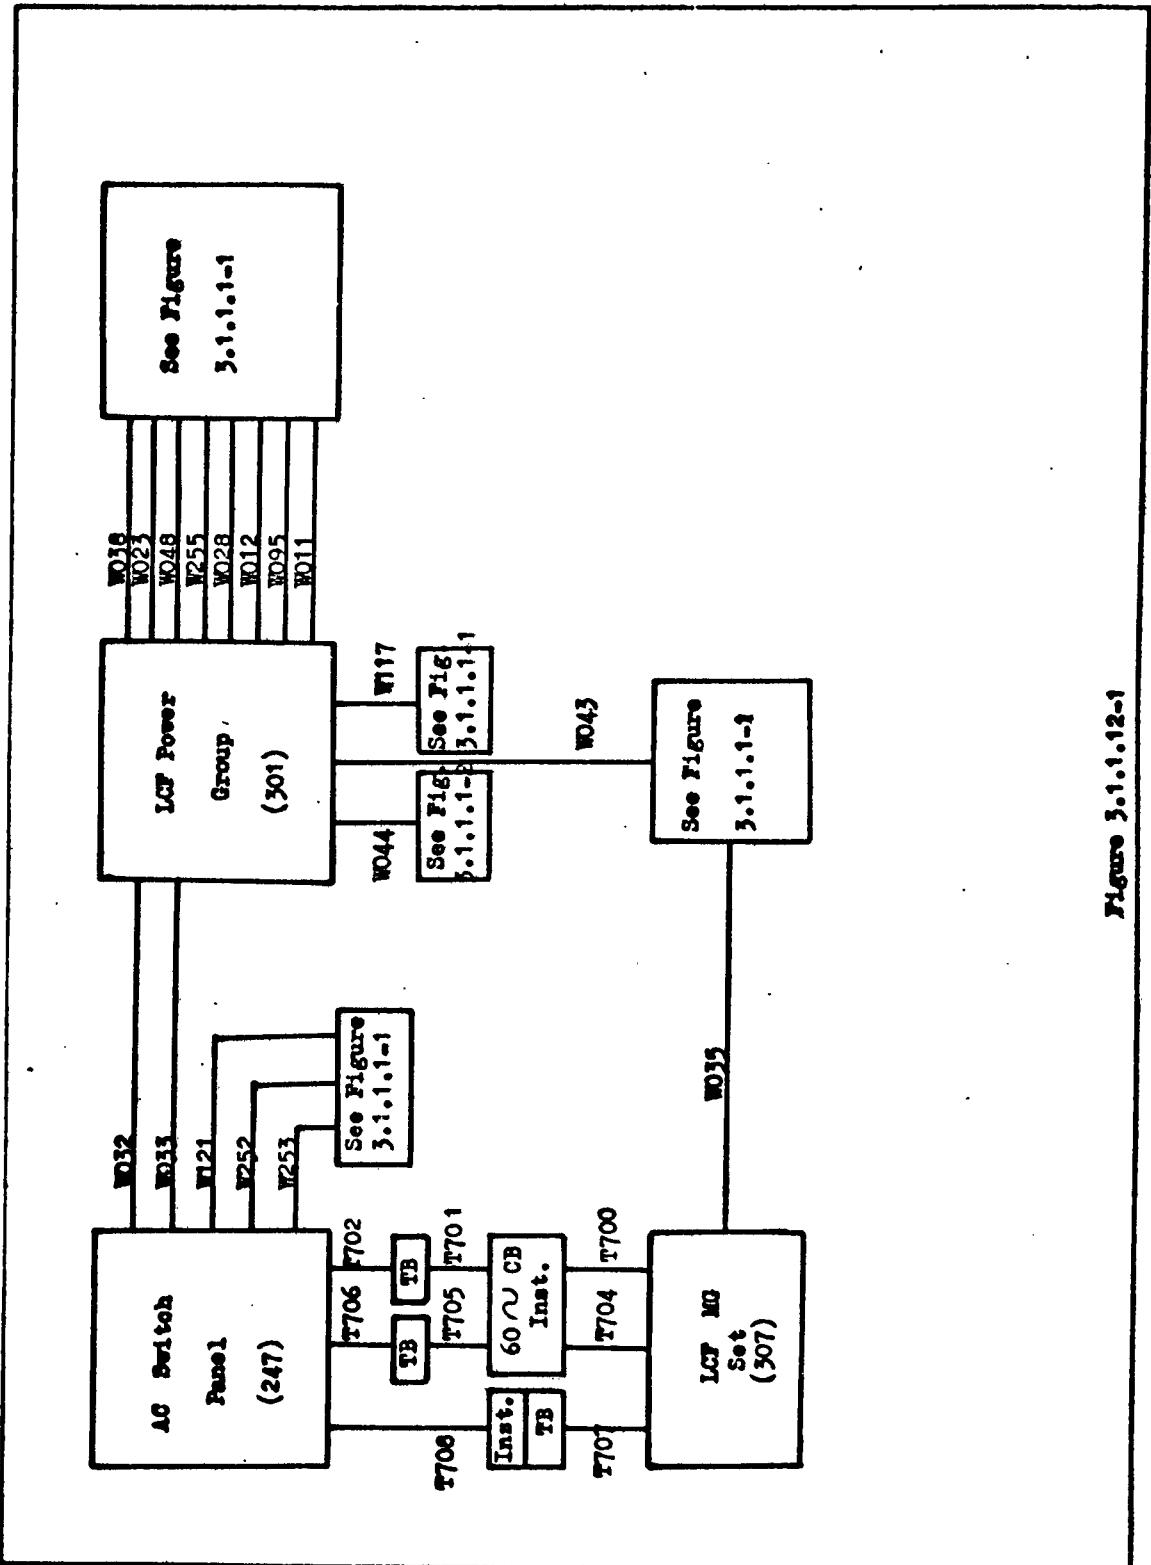

Figure 3.1.1-12-1
3.1 Connect the equipment as shown in Figure 3.1.1.13-1.